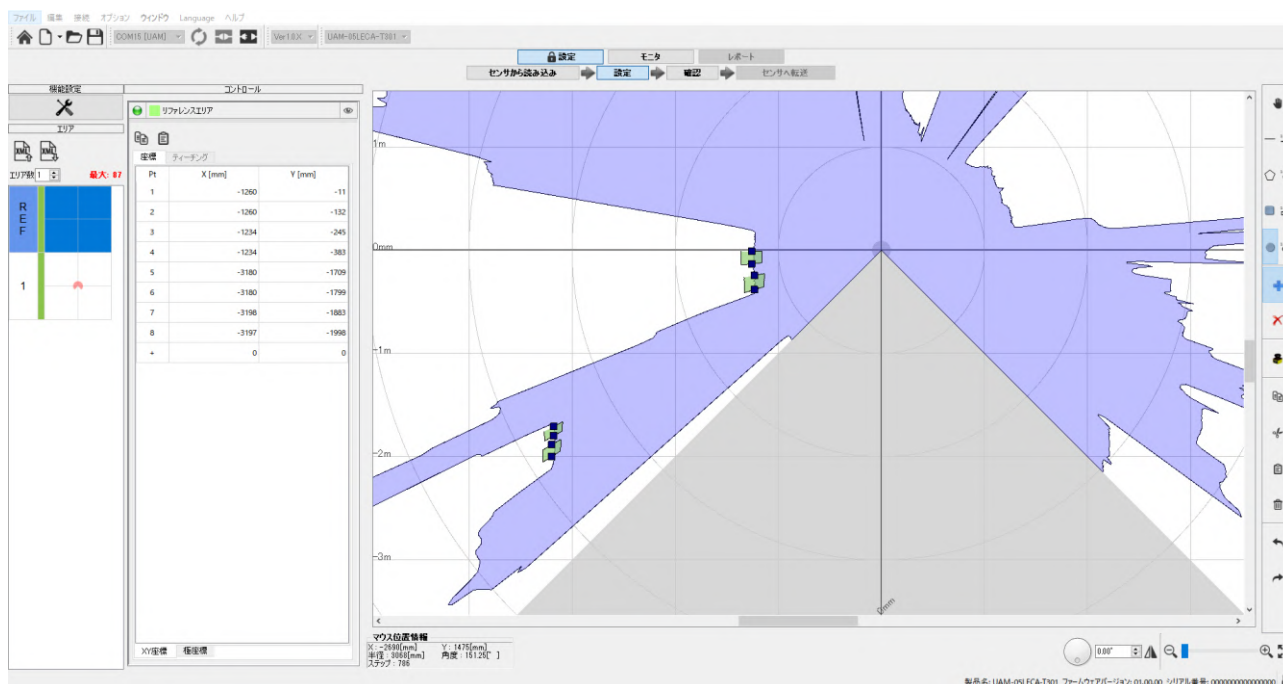

Figure 7-40 Reference region configuration example
- e) Main screen displays the configuration for reference region (Figure 7-40). First area on the preview indicated by “REF” represents the reference area.